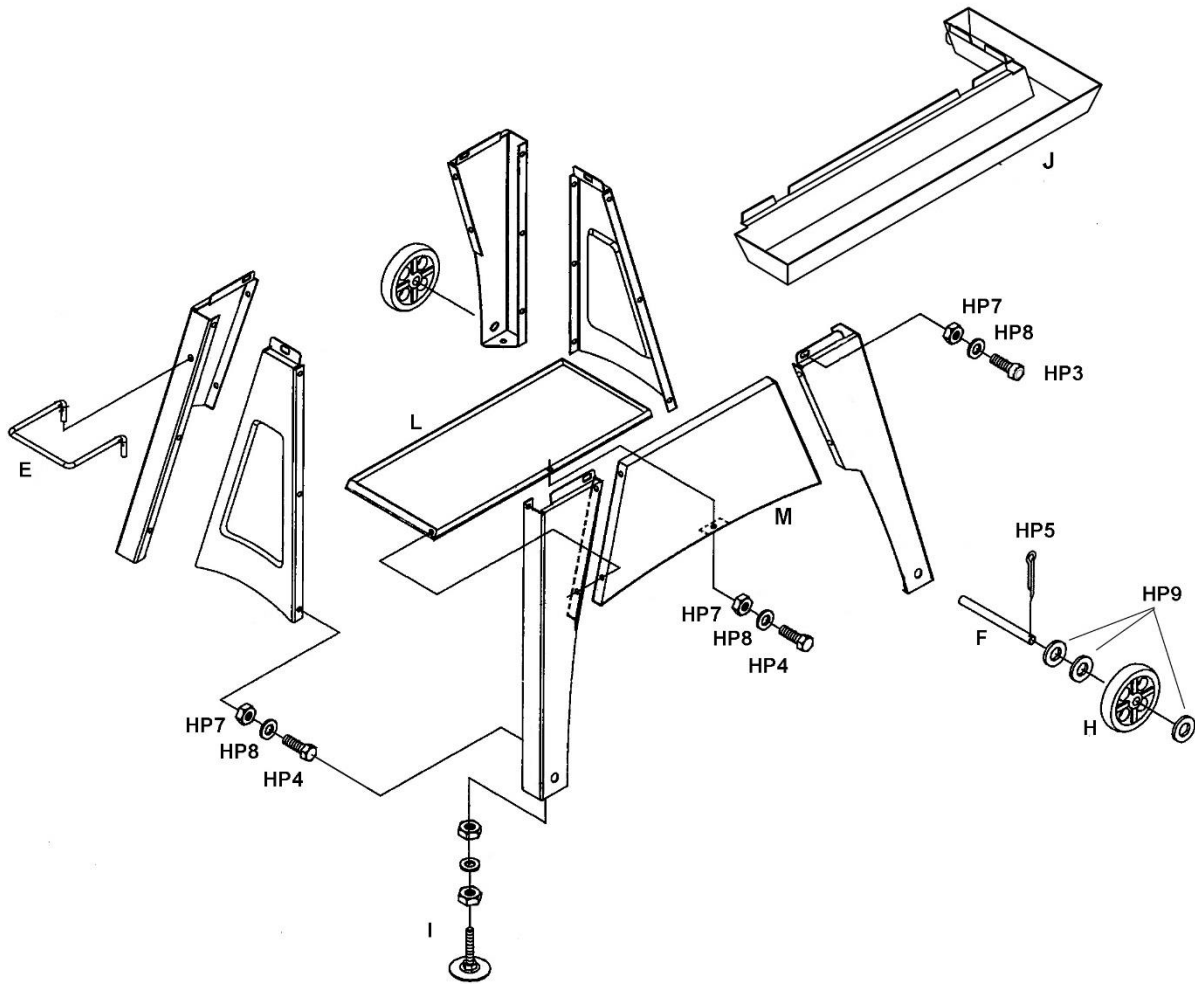
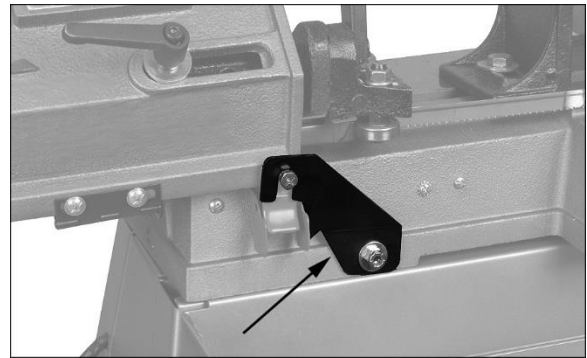

Figure 4
Figure 5
Refer to Figures 4 through 7. If further clarification is needed, refer to exploded views in sect. 12.0.
1. Assemble legs, cross braces, front panel and shelf, as shown in Figure 4.
2. Install handle (E) into end of assembled stand.
4. Install adjustable feet (I) at opposite end of stand and adjust until stand is level.
5. Install trough (J), making sure tab on trough engages slot on stand.
7. Remove the fixed plate which secured the saw head for transport. Figure 5.